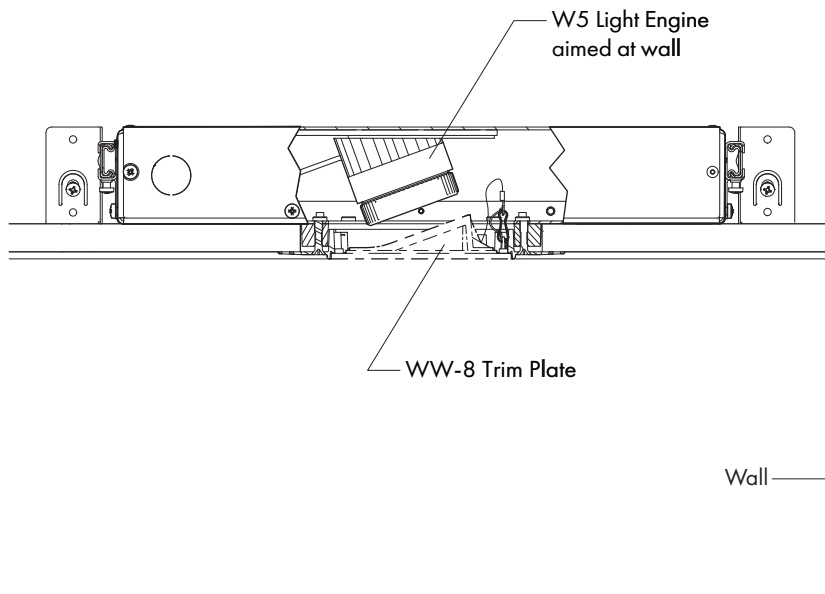

FIG 5.1 Orient Light Engine with Wall
All **W5** Wall Wash Light Engine orientations possible are shown above. Arrow points to direction of wall-See **FIG 5.1** on Page 5.
STEP 1 Orient W5 Light Engine toward wall as shown in **FIG 5.1**.